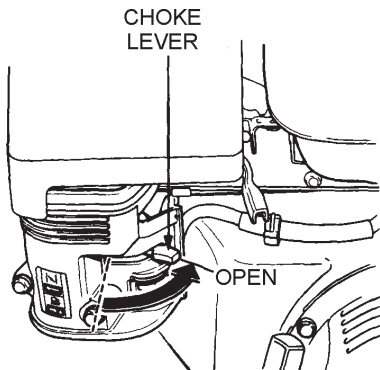

Figure 14. Engine Choke Lever (Open)
3. Place the **choke lever** (Figure 14) in the "**OPEN**" position if starting a **cold** engine.